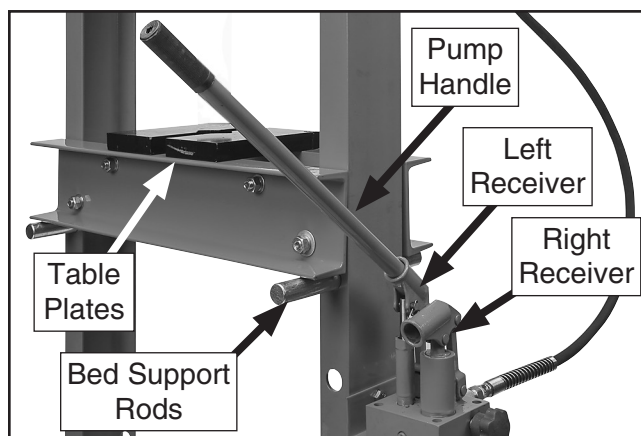

Figure 10. Table plates and handle positions.
10. Insert bed support rods through holes in each column to support press bed at desired height (see **Figure 10**). Lift bed into place and rest it on support rods
11. Place table plates on press bed, and insert pump handle into left or right receiver on top of hydraulic tank (see **Figure 10**).